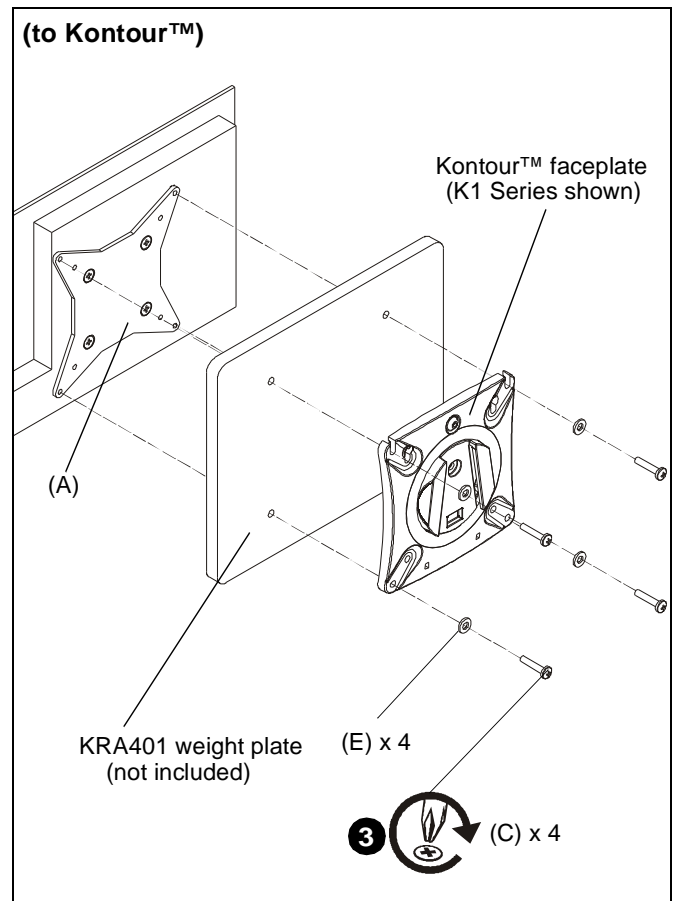

Figure 3
3. **(To Kontour™)** Attach Kontour™ faceplate to interface bracket (A) using four M4x20mm Phillips pan machine screws (C), four narrow M4 washers (E) and KRA401 weight plate (not included). (See Figure 3)